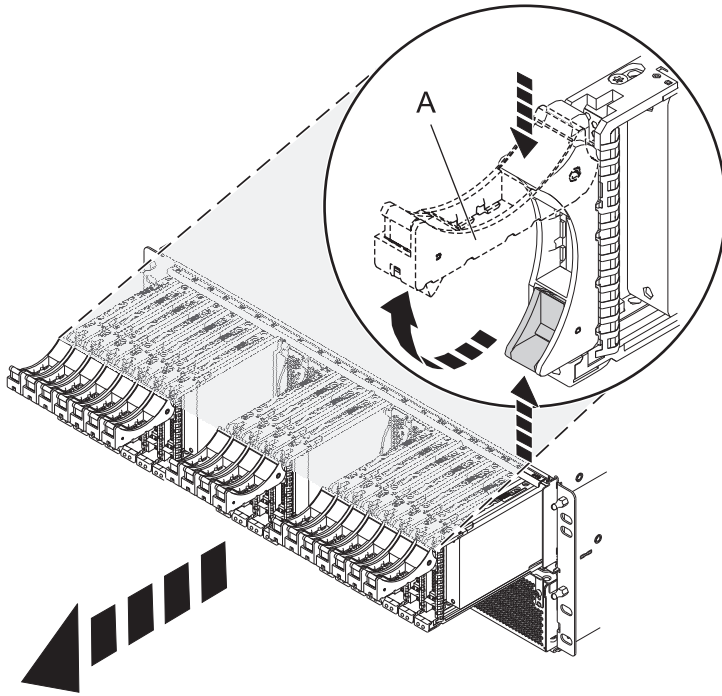

Figure 77. Removing the disk drives from the backplane
3. Remove the disk drives and fillers as shown in Figure 77 on page 138.
- a. Squeeze the latch of the disk drive and pull the handle (A) toward you to release the disk drive.